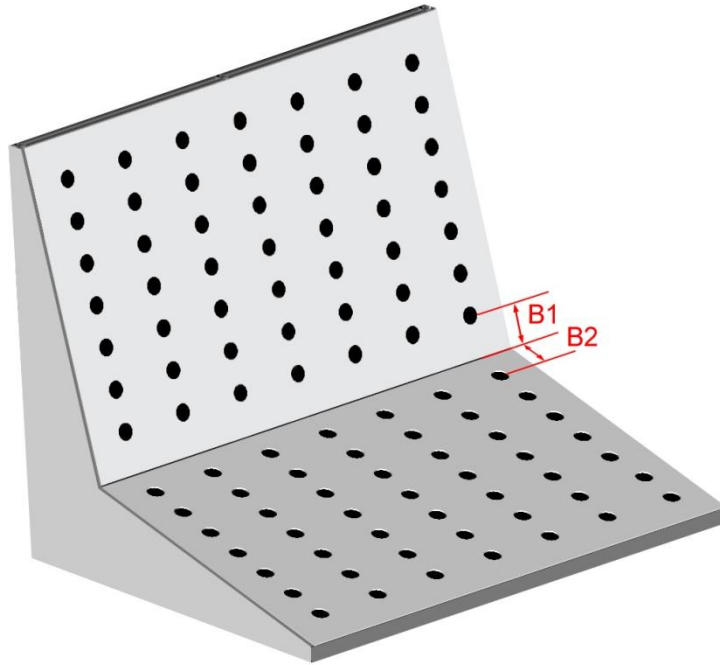

Figure 2. Top and Bottom Face Measurements B1 and B2
2. Measure the distance from the joint of the two panels, perpendicular to the joint axis, to the center of the dot just above and just below the joint, as shown in Figure 2.